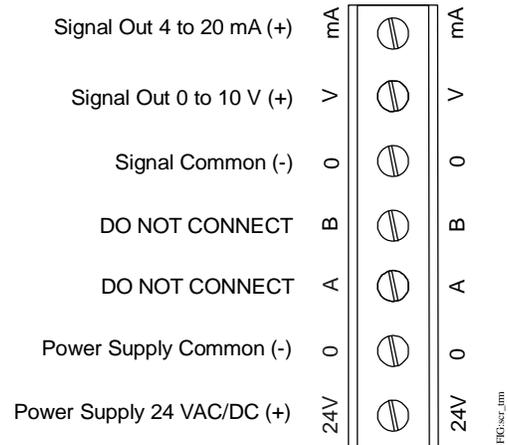

Figure 6: PCB Screw Terminals
2. Connect the wires to the PCB screw terminals as shown in Figure 6.